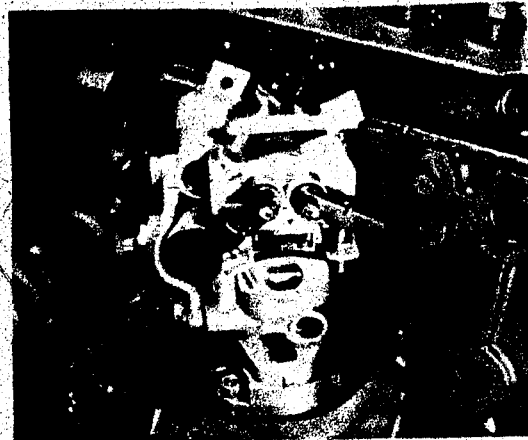

Fig. 4
1.2.3 Installation of the pump (Fig. 4)